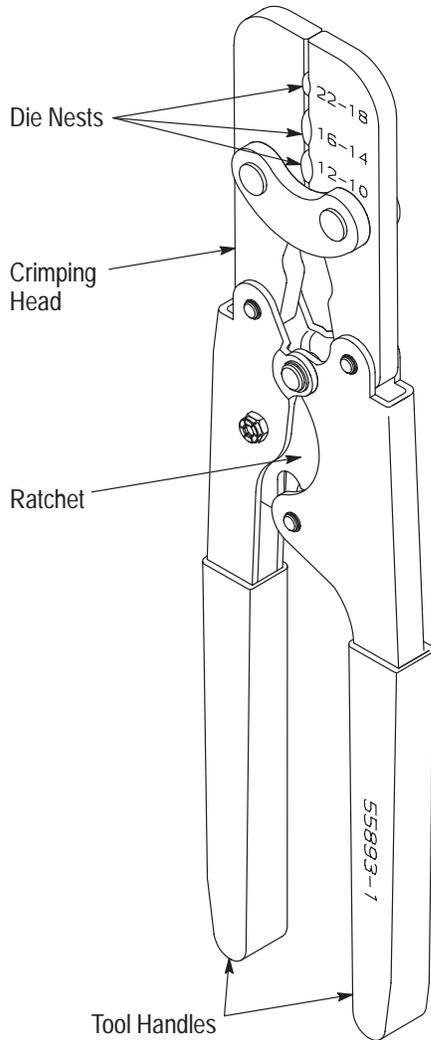

Figure 1
1. INTRODUCTION (See Figure 1)